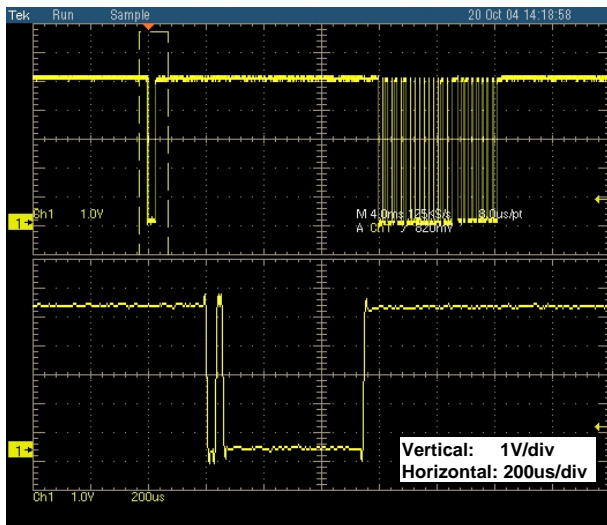

FIGURE 14. POWER-ON BREAK SIGNAL TO WAKE-UP THE ISL6296 FROM SLEEP MODE
that should be used only when the user knows for sure that the device is in the sleep mode. After the narrow break, the device will wake up and send back a break (Refer to the datasheet for more explanation of the narrow power-on break). Figure 14 illustrates the captured waveforms. If the user does not know if the device is in the sleep mode or is awake, the “regular break” option should be chosen, because the long break signal will still wake up a device in sleep mode, or will be ignored if the device is already awake. The send without a break signal can be an option if the user knows for sure that the device is not in the sleep mode.
signal is provided in the XSD Access tab as an option of the *Send* button. When this option is selected, the host sends out a 'power-on break' before sending the instruction frame. Figure 14 illustrate the two 'break' signals. The narrow one was sent by the host and the wider one was the one returned from the ISL6296 (approximately 480μs). From the 480μs 'break' signal, the BT can be calculated as
1. If the device is in the sleep mode, send a 'power on break' with a read instruction in the XSD Access tab to measure the returned 'break' signal for ISL6296, as shown in Figure 14.